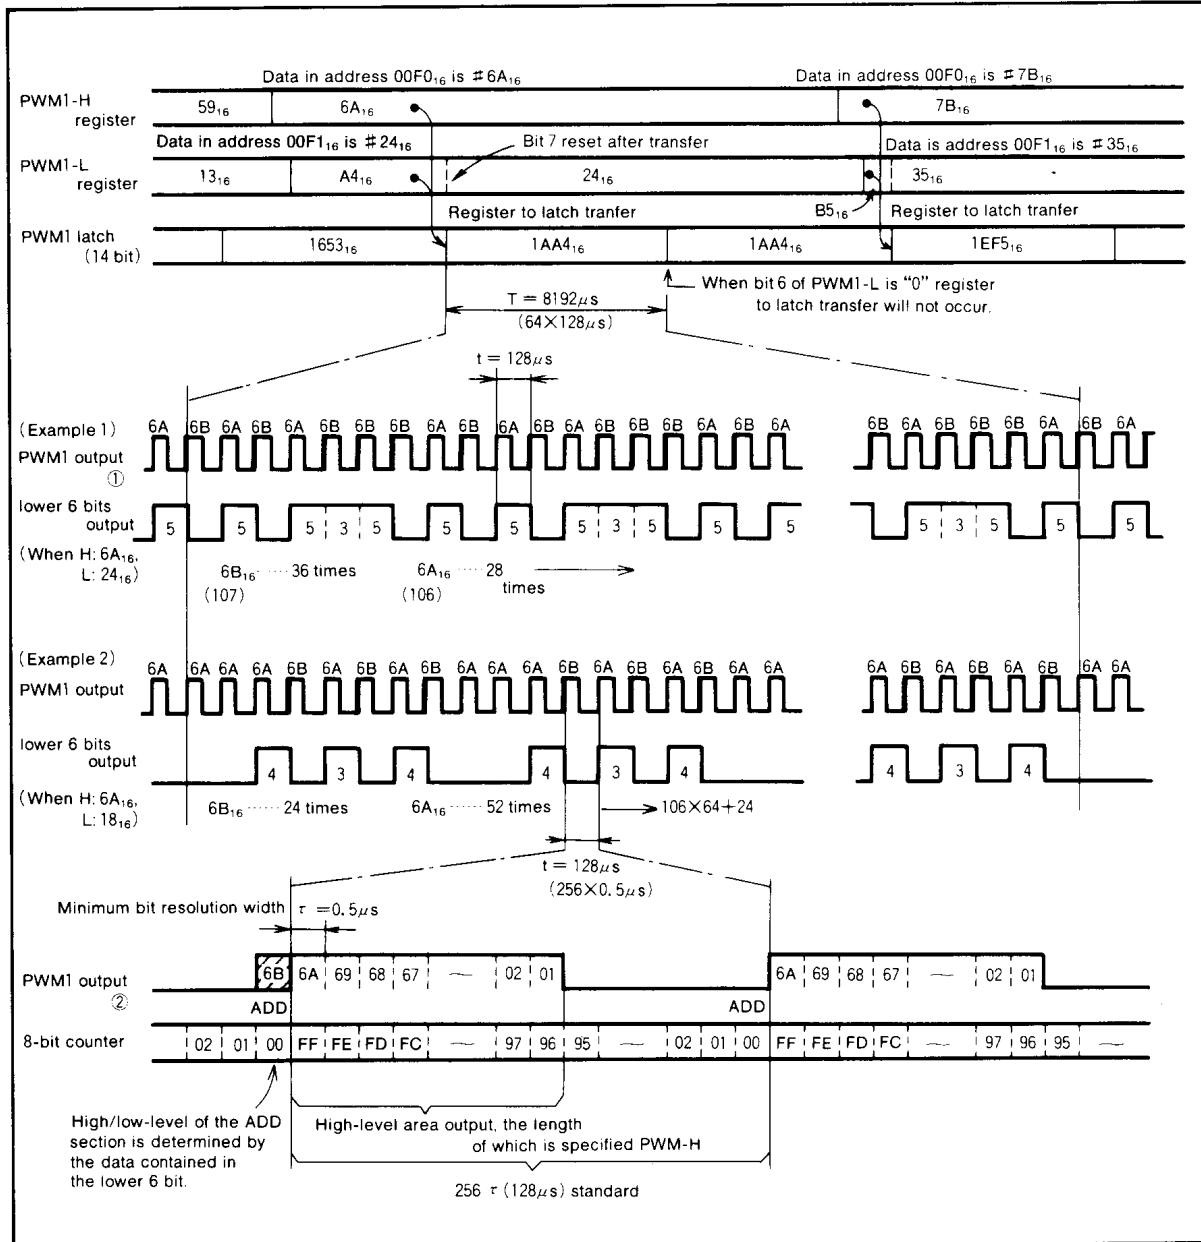

Fig. 17 14-bit PWM timing diagram
The timing diagram of the 14-bit PWM1 is shown in Figure 17. The 14-bit PWM divides the data within the PWM latch into the lower 6 bits and higher 8 bits.
A high-level area within a length N timers τ is output every short area of $t = 256 \tau = 128\mu\text{s}$ as determined by data N of the higher 8 bits. (Refer to PWM output ② in the lower part of Figure 17.)